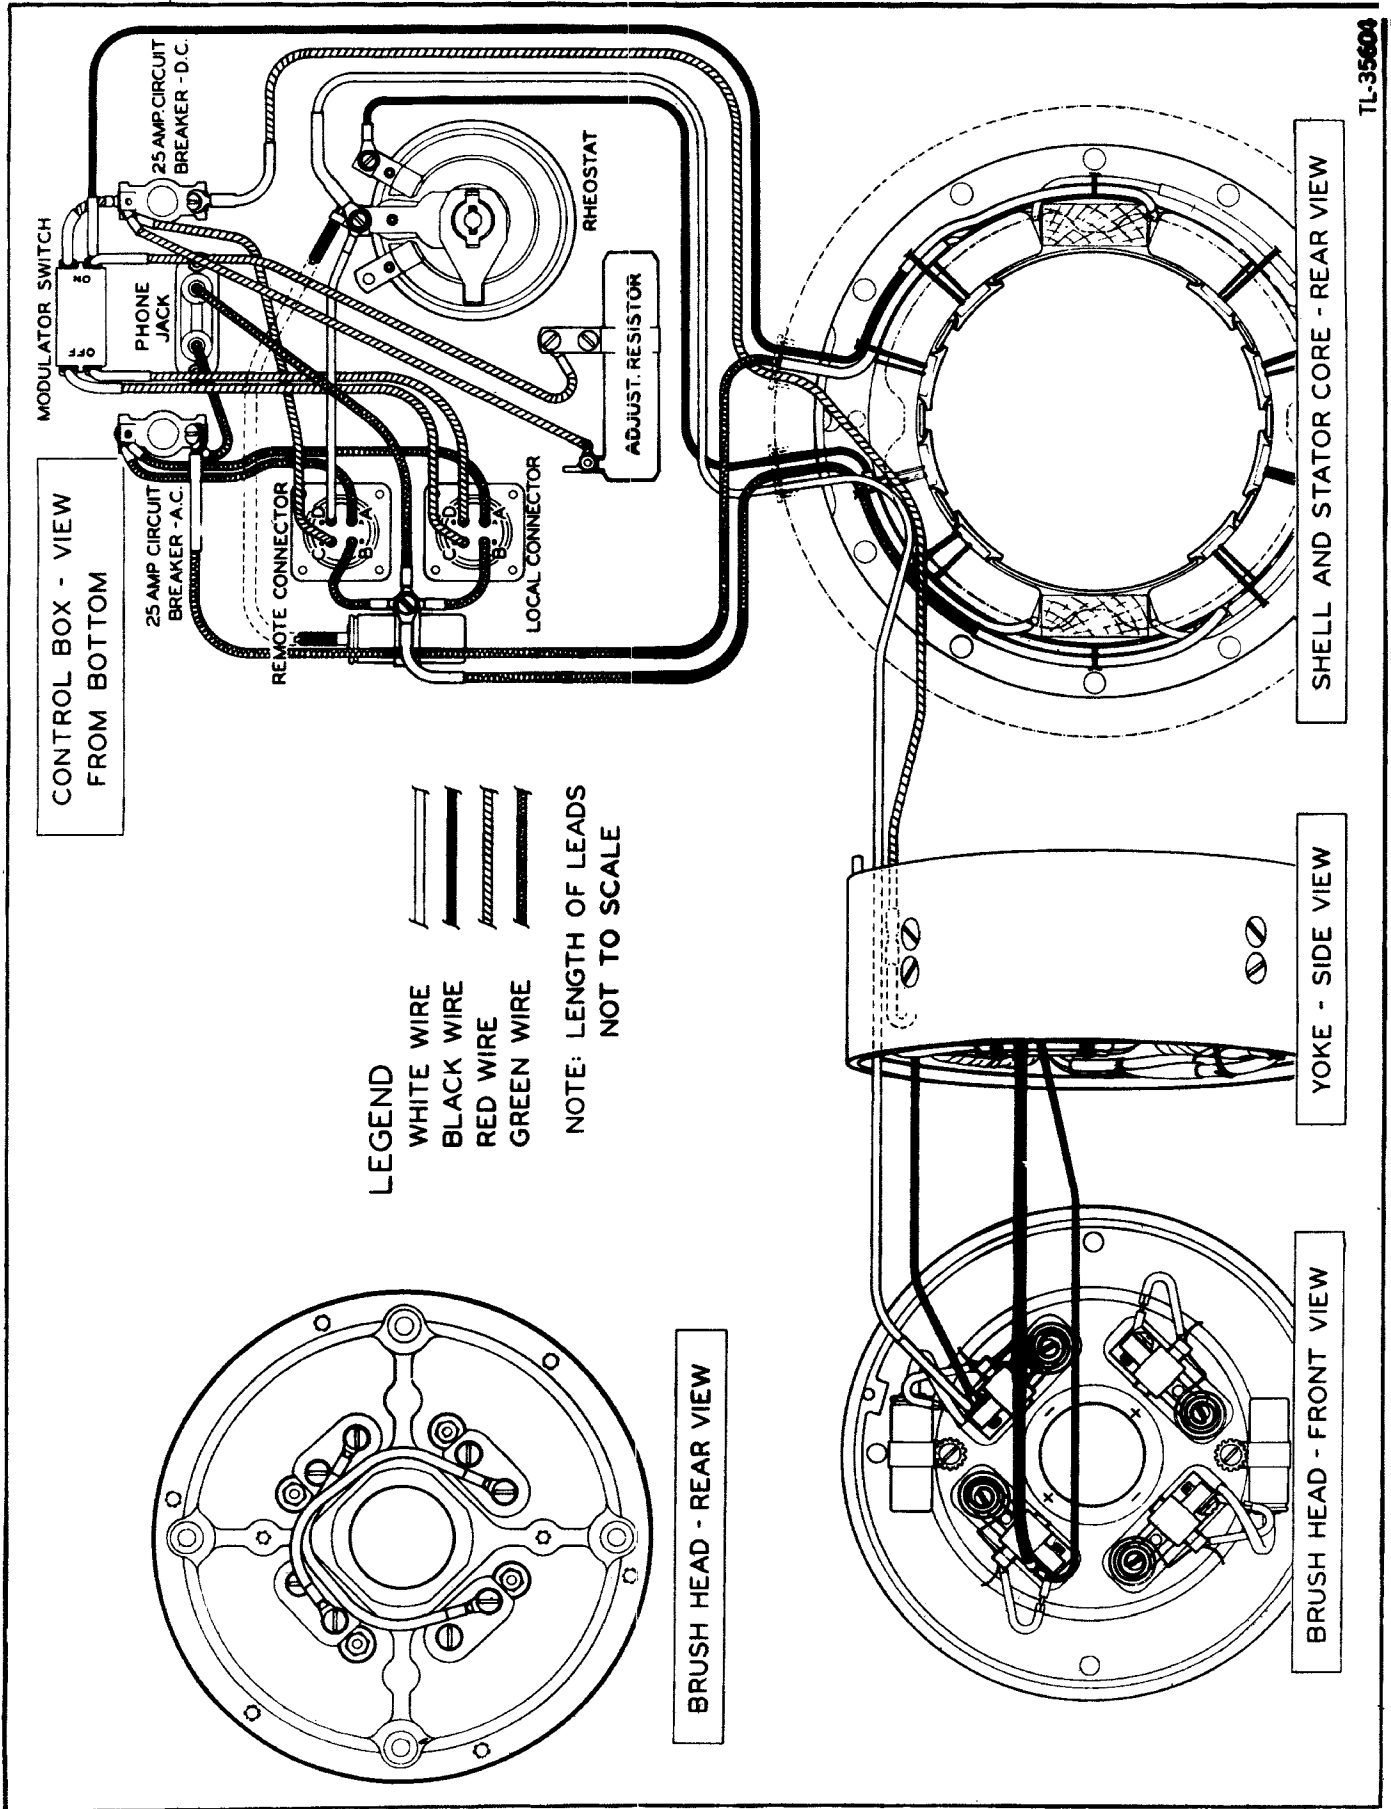

Figure 21. Practical wiring diagram
e. Assemble Generator. (1) Place the key in the crankshaft; align the keyway in the armature shaft, and slide the armature over the crankshaft until it is flush with the flywheel nut.
(2) If the yoke and control box have been removed from the shell, reassemble them. Note that the brush head and yoke are fastened to the shell by four yoke bolts, and the control box by four screws. *Refer to wiring diagrams (figs. 21 and 22) to make sure that all connections are correct*. Slide the complete yoke, shell, and brush-